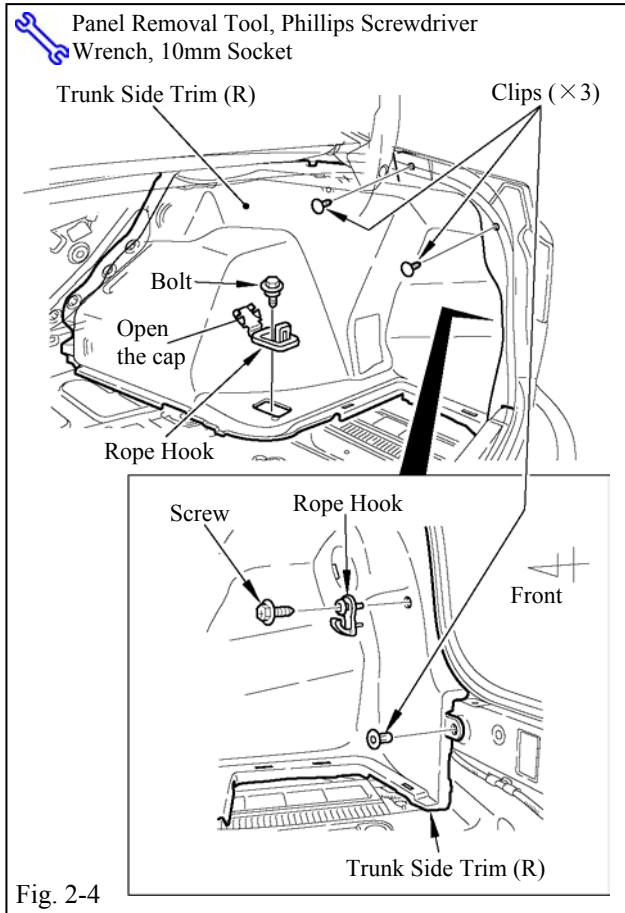

Fig. 2-4
(e) Remove the trunk side trim (R) (Fig. 2-4).
- (1) Remove the rope hook from floor section.
- (2) Remove clips.
- (3) Remove the rope hook from rear section.